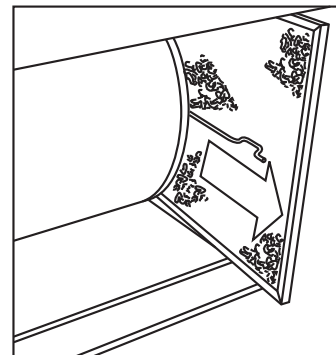

Fig. 14 - Slide Filter Out of Furnace (Side Inlet)
- b. Gently remove air filter and carefully turn the dirty side up (if dirty) to avoid spilling dirt from the filter. See Fig. 14.